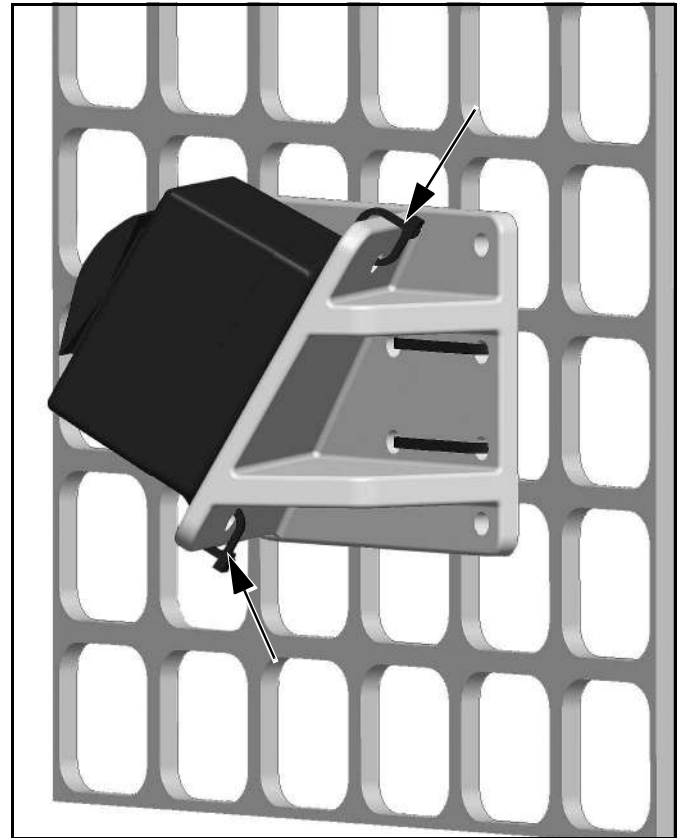

Figure 28
3. Secure Plow Control Box with two tie straps. (See Figure 28)